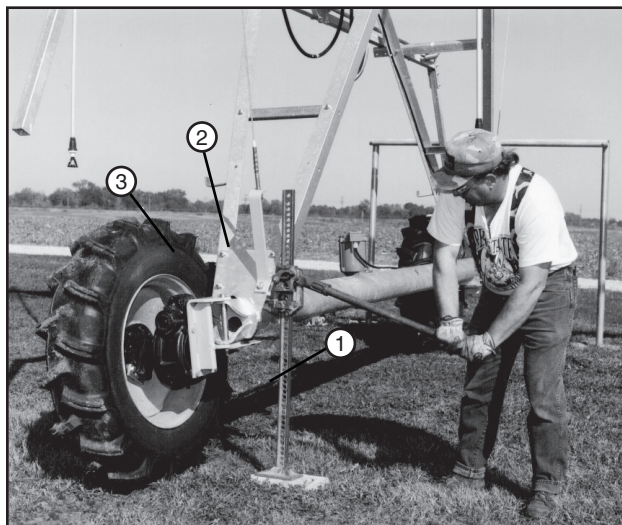

Figure 62-3 1. Jack 3. Tire
3. The wheels on each drive unit must be turned into the tow position. Use a jack to lift one side of the drive unit until the tire is off of the ground. See figure 62-3.